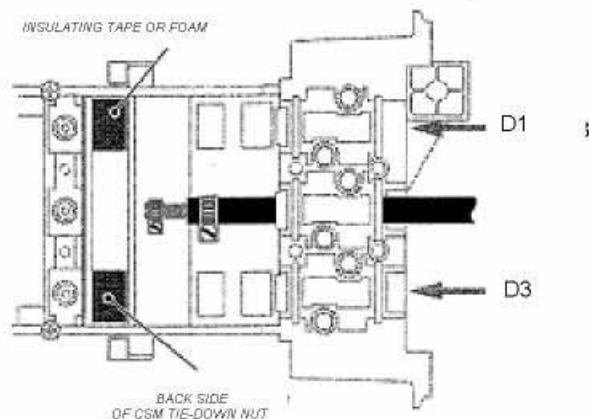

Figure 8b - Isolated D1 and D3 Cables
13.02 Terminate the bond strap ring terminal(s) from the cable(s) to be isolated to an inside ground terminal. Tighten the ground terminal hex nuts securely. See **Figure 8b**.